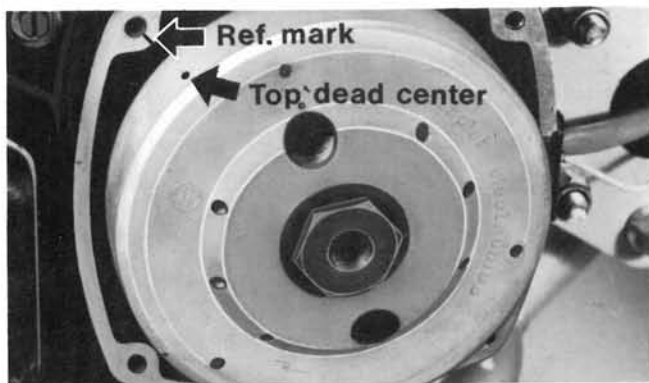

Fig. 38.1
2. Put a mark on the flywheel and a reference mark on the mounting plate. See fig. 38.1.